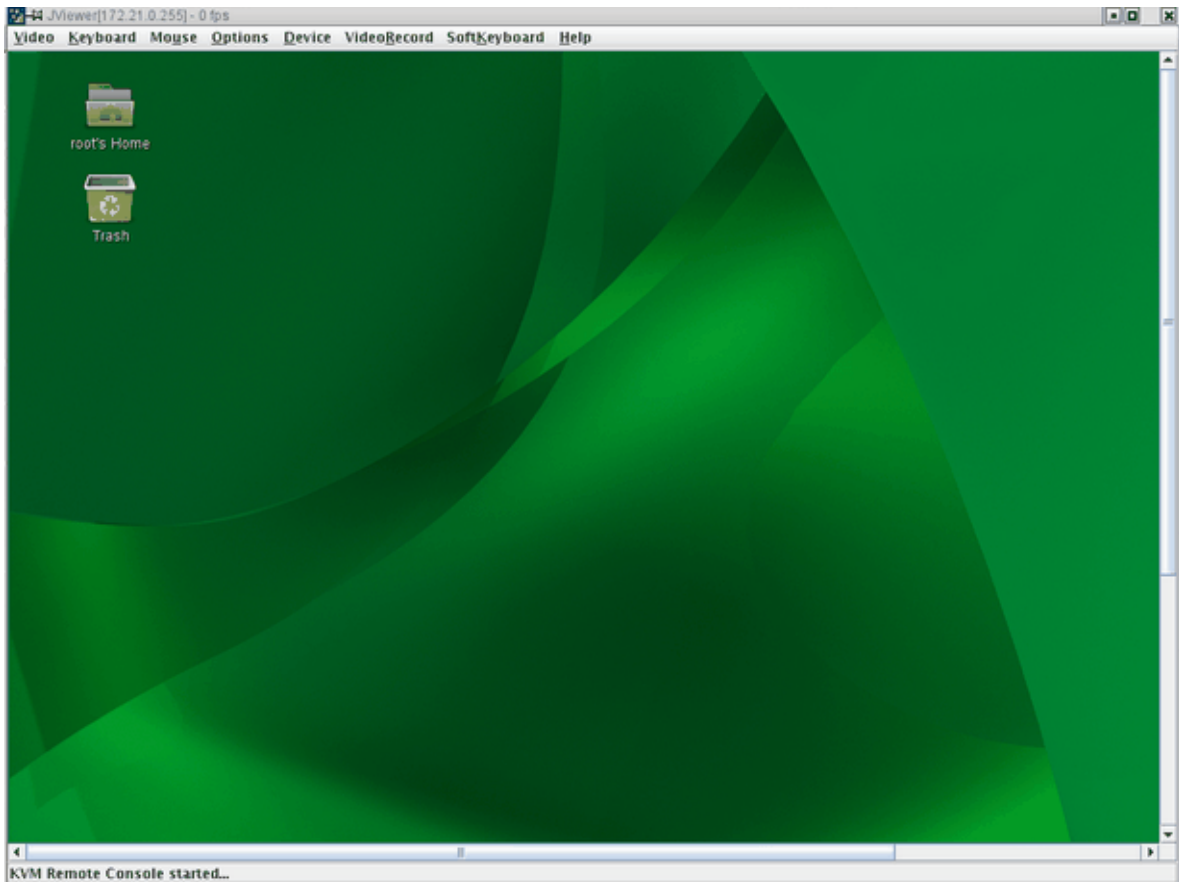

Figure 3-12 SUSE Linux Enterprise Server 11 (x86_64) Desktop Screen
15. The SUSE Linux Enterprise Server 11 (x86_64) desktop appears, as shown in Figure 3-12 on page 47.